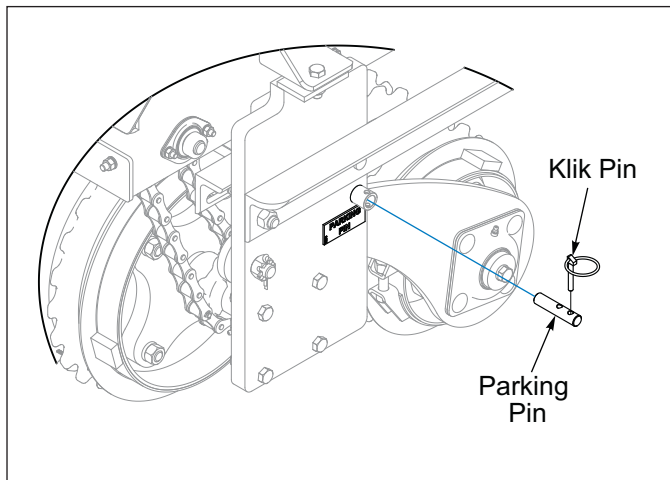

Figure 3-2: Parking Pin
10. Raise seeder. Remove Parking Pin. **See Figures 3-2 and 3-3.** Adjust or lock tractor sway stabilizers if equipped, centering the Seeder with the Tractor. **Refer to the Tractor Operator's Manual.**
2. Raise Seeder. Remove the Klik Pin, pull the Parking Pin into the outer position, replace the Klik Pin. **See Figures 3-2 and 3-3.**
1. With Seeder raised, remove the Klik Pin, push in the Parking Pin, replace the Klik Pin. **See Figures 3-2 and 3-4.**